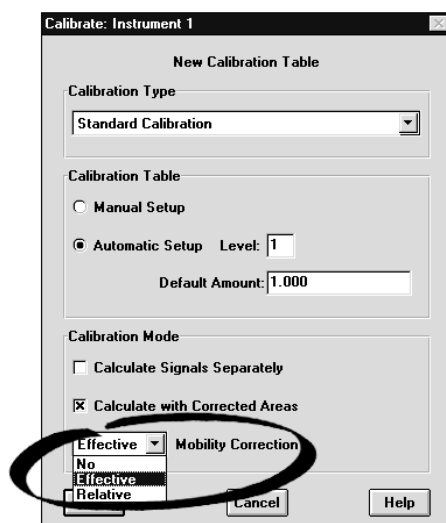

Figure 3
- ❶ Load the signal.
- ❷ Choose **New Calibration Table** from the **Calibration** menu, or choose the **New Calibration Table** icon.
- ❸ In the **Calibration Mode** group of the **Calibrate** dialog box, choose the down arrow and select **Effective Mobility Correction** (Figure 3).